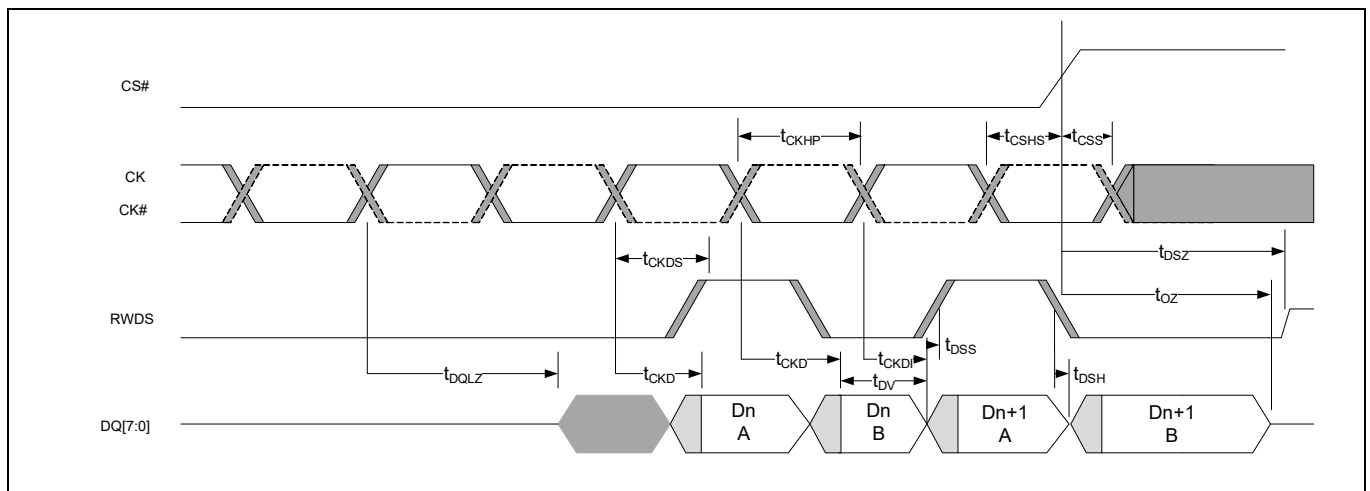

Figure 39 Data valid timing^[53-55]
51. Refer to Figure 39 for data valid timing.